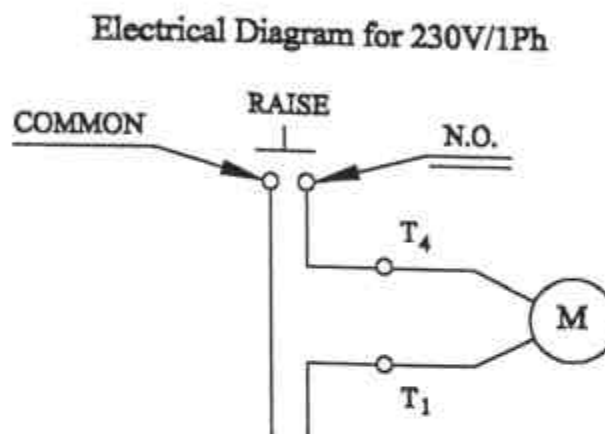

Fig. 9
**CAUTION:** All electrical connections should be made by a certified electrician. Refer to Fig. 9, electrical diagram for 230V/1Ph. electrical connection, electrical breaker size recommendation: 25 AMPs.